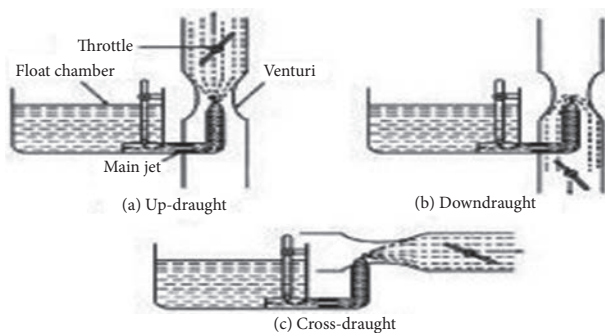

Figure 9.5.3 Various Types of Carburettor
(I) In this type of carburettor the air would come from induction manifold to downward direction due to gravitational force. It will be placed above the induction manifold. Most of the vehicles use the down draught type carburettor. The fig 9.5.3 shows the down draught carburettor.
In this type, air-fuel mixture goes from bottom to top of the induction manifold. The fig 9.5.3 shows the up draught carburettor.
In this type, air-fuel mixture goes from one side to another side way. This is placed side of the induction manifold. Figure 9.5.3 shows various types of Carburettor.